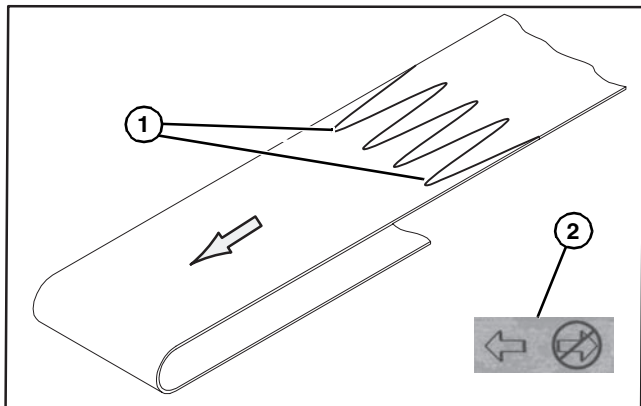

Figure 37
6. Remove belt (**Figure 37, item 1**) from conveyor.